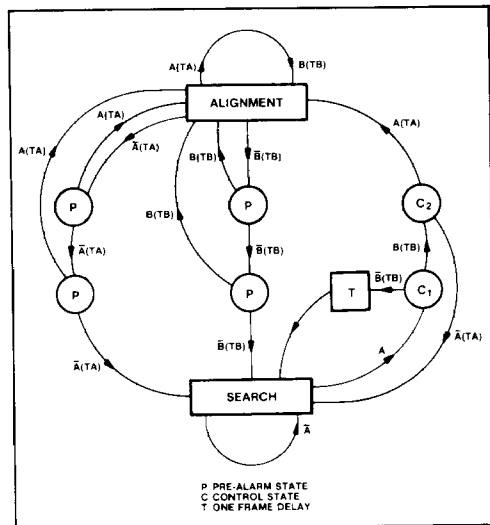

Fig 3 Frame alignment procedure
Frame alignment is described by the flow chart of Figure 3 where the A and B words are defined.
As already outlined in Fig.3. Three consecutive words A(TA) or B(TB) set an R-S flip-flop. This condition can also be forced by the external signal MIR.